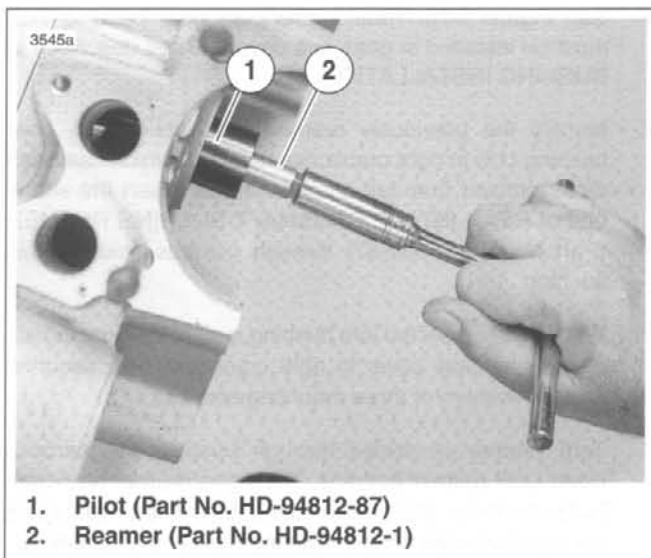

Figure 3-88. Line Reaming Pinion Shaft Bushing
2. See Figure 3-88. Install PINION SHAFT BUSHING REAMER PILOT (Part No. HD-94812-87) into right crankcase roller race. Insert PINION SHAFT BUSHING REAMER (Part No. HD-94812-1) through the pilot.